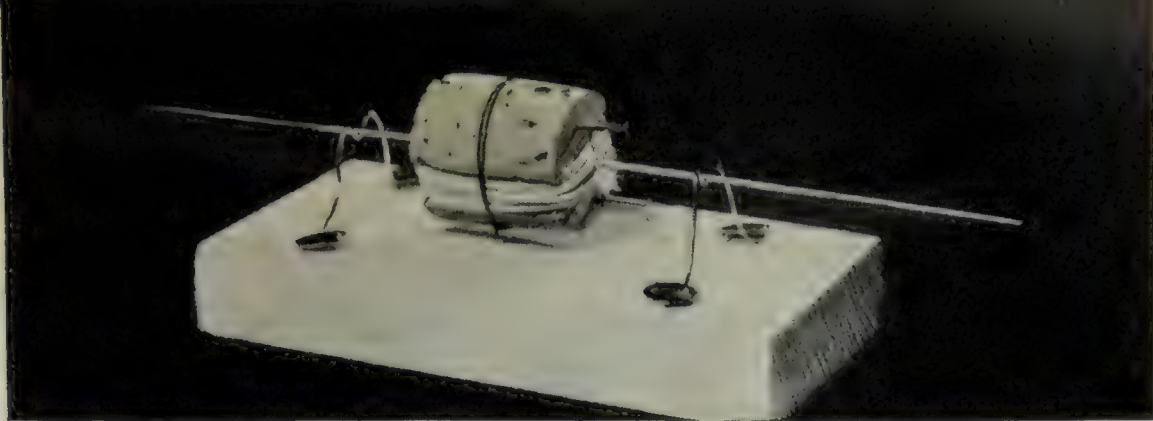

FIG. 412. Armature of a home-made motor
*Experiment 91. HOW IS AN ELECTRIC MOTOR CONSTRUCTED?* For the field magnets of your motor use one or two large U-magnets like those you used in Experiment 90. For the armature get a cylindrical cork or piece of soft wood about two inches long and an inch in diameter. Cut two shallow lengthwise notches on opposite sides of the wood or cork cylinder. Wind about twenty turns of No. 22 or No. 24 insulated wire in these notches (Figure 412). Tie a thread around the middle of the cylinder over the wires to hold them.
Now cut two small pieces of No. 18 bare copper wire about an inch long, or get two nails about that size. Push them into the cylinder at the points shown in Figure 412; fasten one free end of the wire to each bare wire (or nail). Get a large needle or two nails for the